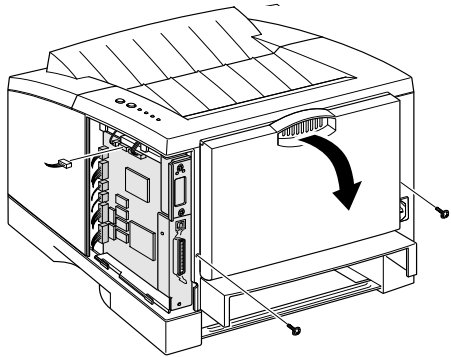

Fig. 2
4. Disconnect the control panel harness (CN18) from the System Controller Board (Fig 2).
5. Remove the two screws from the rear of the printer cover (Fig 2).